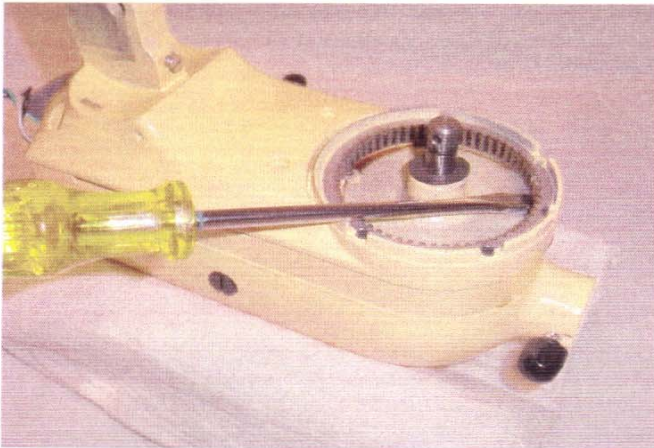

Fig. 61 Internal gear can be pried from the bottom cover and replaced if necessary.
P. If necessary to replace the internal gear, pry it from the bottom cover (Fig. 61).